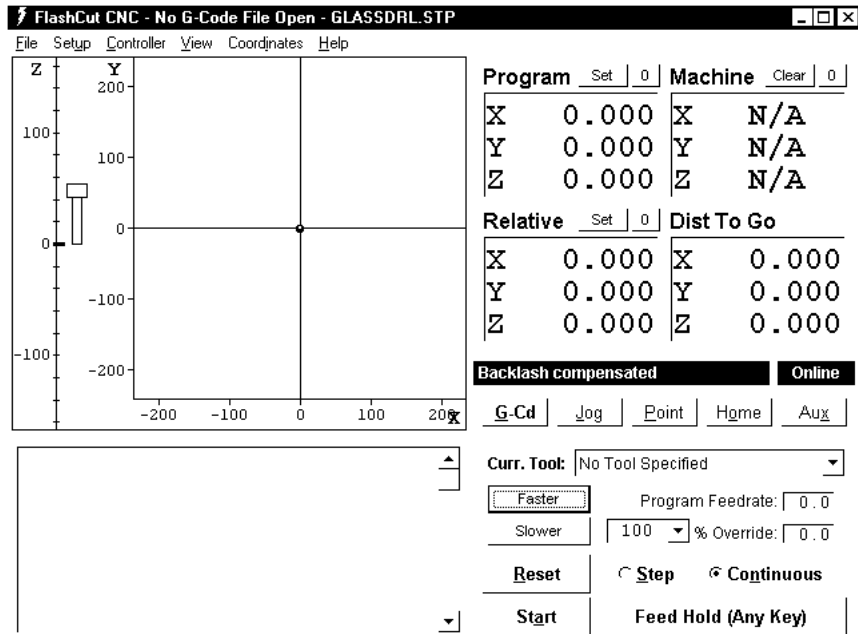

Figure 1: FlashCut program after startup and before homing the mill
4. Check the breadboard around the CNC mill and make sure nothing is obstructing the path of the mill. The screen should look like Figure 1.